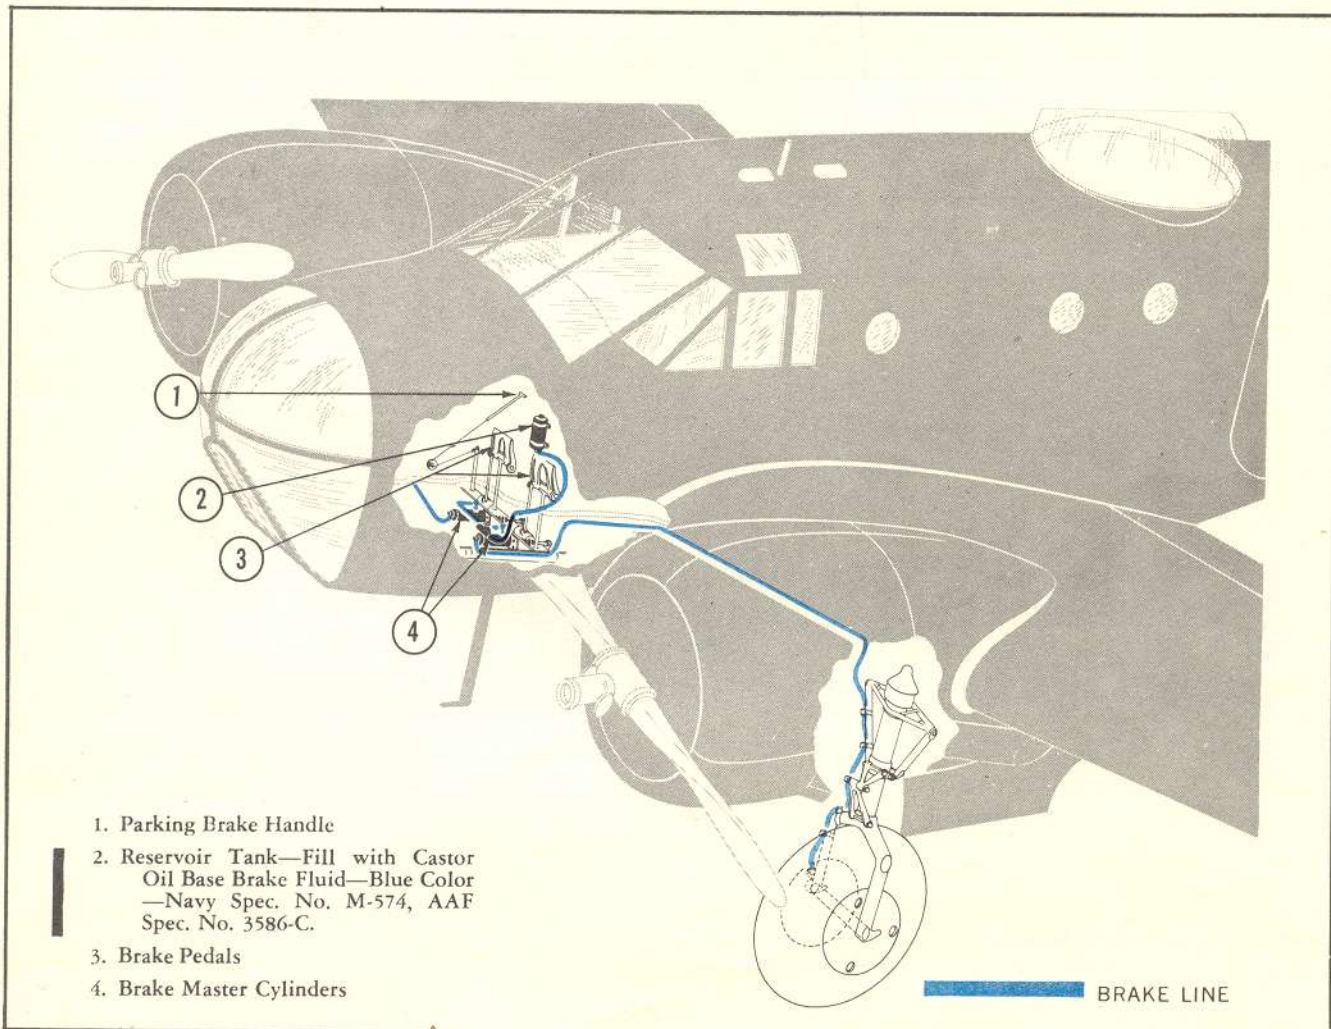

Figure 3—Hydraulic Brake System Diagram, AT-11 and SNB-1
d. HYDRAULIC SYSTEM. (See figure 3.)—The wheel brakes are the only units operated hydraulically. Other units are either manually or electrically operated.